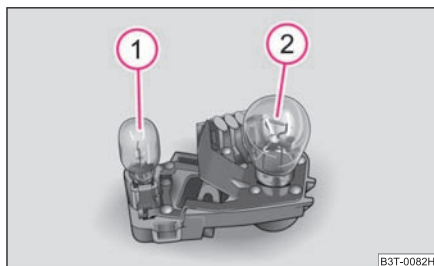

Fig. 225 Inner part of the rear light unit: Lamps
- To change a bulb of the rear light ① ⇒ fig. 225, pull the defective bulb out of the fixture and insert a new one.
- To change the bulb of the rear fog light ② ⇒ fig. 225, turn the defective bulb to the left up to the stop and take it out.
Fitting position of the bulbs in the inner rear light unit ⇒ fig. 225.